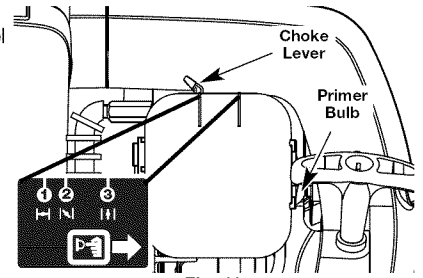
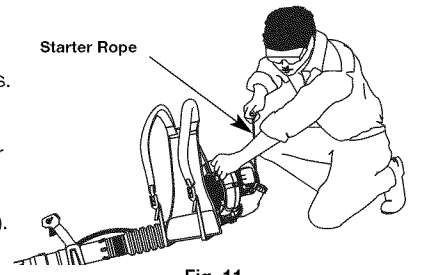

Fig. 10
Fig. 11
**WARNING:** Avoid accidental starting. Make sure you are in the starting position when pulling the starter rope (Fig. 11). To avoid serious injury, the operator and unit must be in a stable position while starting. To avoid serious personal injury, make sure that the blower tube is locked in place or firmly installed.
3. Slowly press and release the primer bulb **10** times. Some amount of fuel should be visible in the primer bulb (Fig. 10). If fuel cannot be seen in the bulb, press and release the bulb until fuel is visible.
4. Move the choke lever to **Position 1** (Fig. 10).
6. Crouch in the starting position (Fig. 11). Pull the starter rope **5** times in a controlled motion.
7. Move the choke lever to **Position 2** (Fig. 10).
10. While continuing to keep the throttle trigger in the **FAST** position, move the choke lever to **Position 3** and continue warming the unit for an additional 60 seconds (Fig. 10). The unit may be used during this time.
**IF...** the engine hesitates, return the choke lever to **Position 2** (Fig. 10) and continue the warm-up.
**IF...** the engine fails to start after two attempts, move the choke lever to **Position 3** (Fig. 10) and press down the cruise control. Pull the starter rope in a controlled motion **3-8** times. The engine should start. If not, repeat.
**IF WARM...** If the engine is already warm, start the unit with the choke lever in **Position 2** (Fig. 10). After the unit starts, move the choke lever to **Position 3** (Fig. 10).
3. Slowly press and release the primer bulb 10 times. Some amount of fuel should be visible in the primer bulb (Fig. 10). If fuel cannot be seen in the bulb, press and release the bulb until fuel is visible.
6. Crouch in the starting position (Fig. 11). Place the Plug-In Power Start or Power Bit Start into the back of the unit. Refer to the *Operation* section of the Plug-In Power Start or Power Bit Start operator's manual.
7. Press and hold the **ON (I)** button of the Plug-in Power Start or Power Bit Start equipped drill for 2 seconds.
8. Move the choke lever to **Position 2** (Fig. 10).
9. Press and hold the ON (I) button of the Plug-in Power Start or Power Bit Start equipped drill in intervals no longer than 2 seconds each until the unit starts.
12. While continuing to keep the throttle trigger in the FAST position, move the choke lever to **Position 3** and continue warming the unit for an additional 60 seconds (Fig. 10). The unit may be used during this time.
**IF...** the engine fails to start after two attempts, move the choke lever to **Position 3** (Fig. 10) and press down the cruise control. Then press and hold the Plug-In Power Start or drill **ON (I)** button in intervals no longer than 2 seconds each until the unit starts.